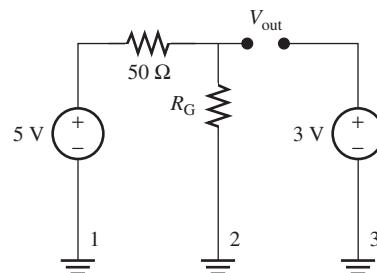

FIGURE P11.48 Ground loop.
- 11.48** (A)* A circuit provides 5 V power for an analog part and 3 V for a digital part shown in Figure P11.48. Calculate the voltage difference measured at V_{out} when $R_G = 0 \Omega$ (no ground loop) and $R_G = 1 \Omega$ (ground loop).